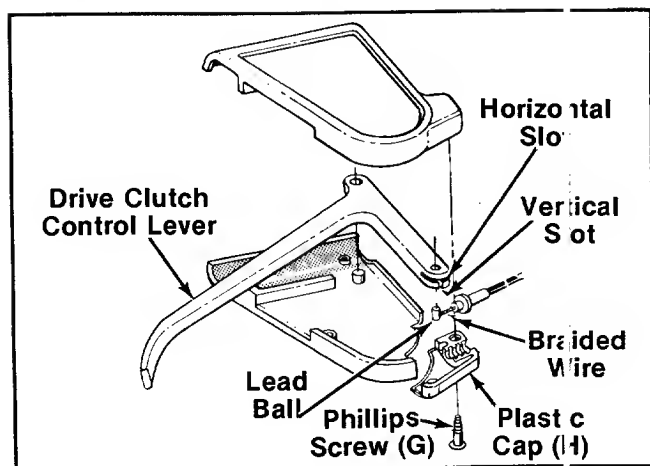

FIGURE 9.
- b. Slide the braided wire around in the horizontal slot. See figure 9.
- d. Secure the plastic cap (H) to the clutch control housing using the two Phillips head screws (G). See figure 9.